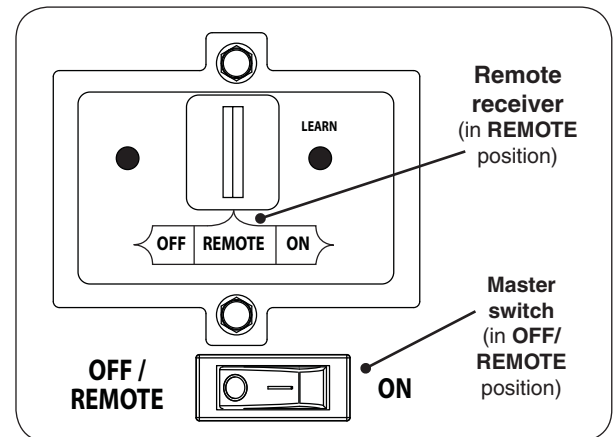

Fig. 41-1 Control panel detail
1. Ensure the master switch is in the **OFF/REMOTE** position (see Fig. 41-1).
2. Locate the 3-position switch on the remote receiver (see Fig. 41-1), and slide the switch to the **REMOTE** position.